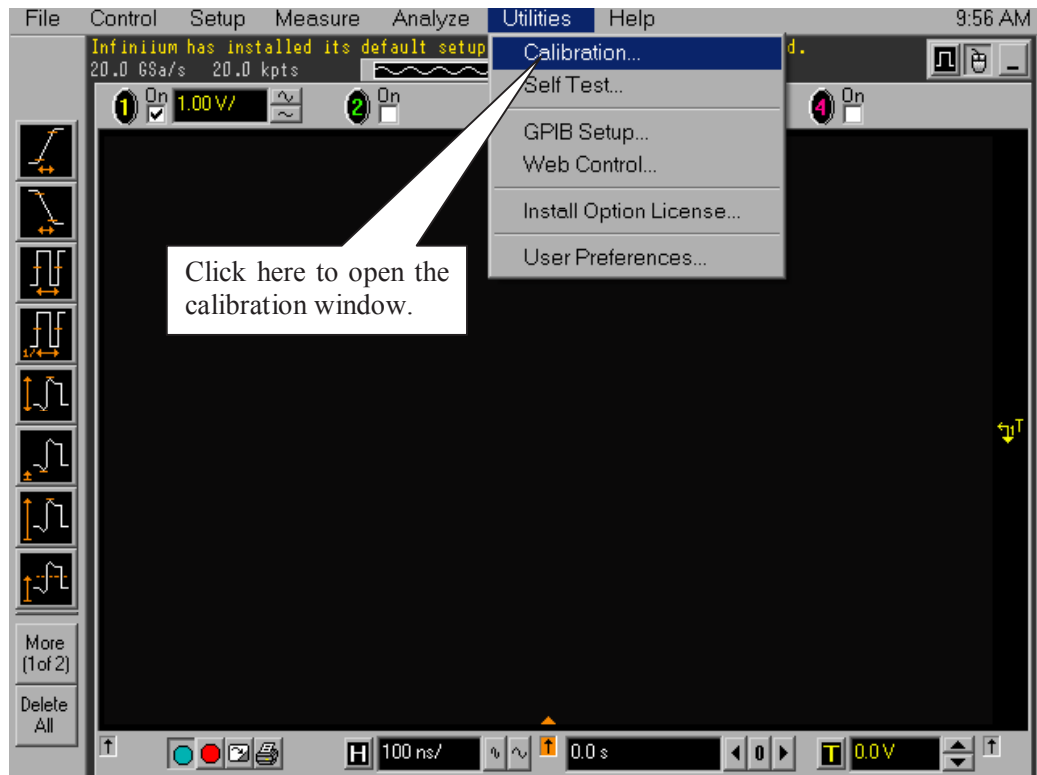

Figure 105 Accessing the Calibration Menu.
- 3 Referring to Figure 105 below, perform the following steps: